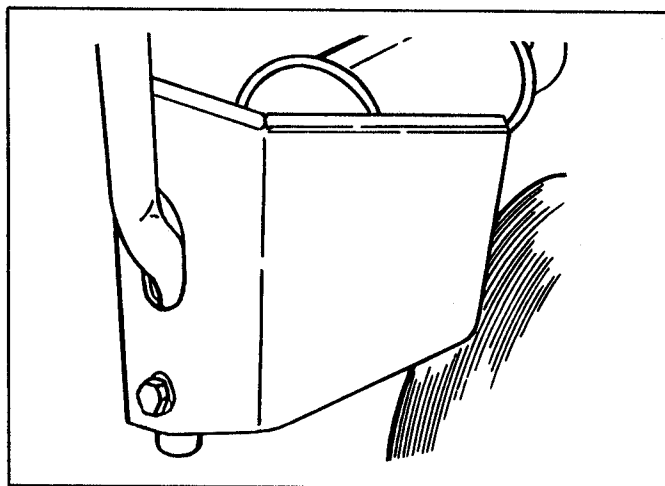

FIGURE 2 - MUFFLER SHIELD INSTALLED
2. HEAT SHIELD (REAR ENGINE RIDERS ONLY): Remove the upper screw on the right side rear bumper, slip the shield down over the bumper as shown in figure 2 and secure with the same screw.